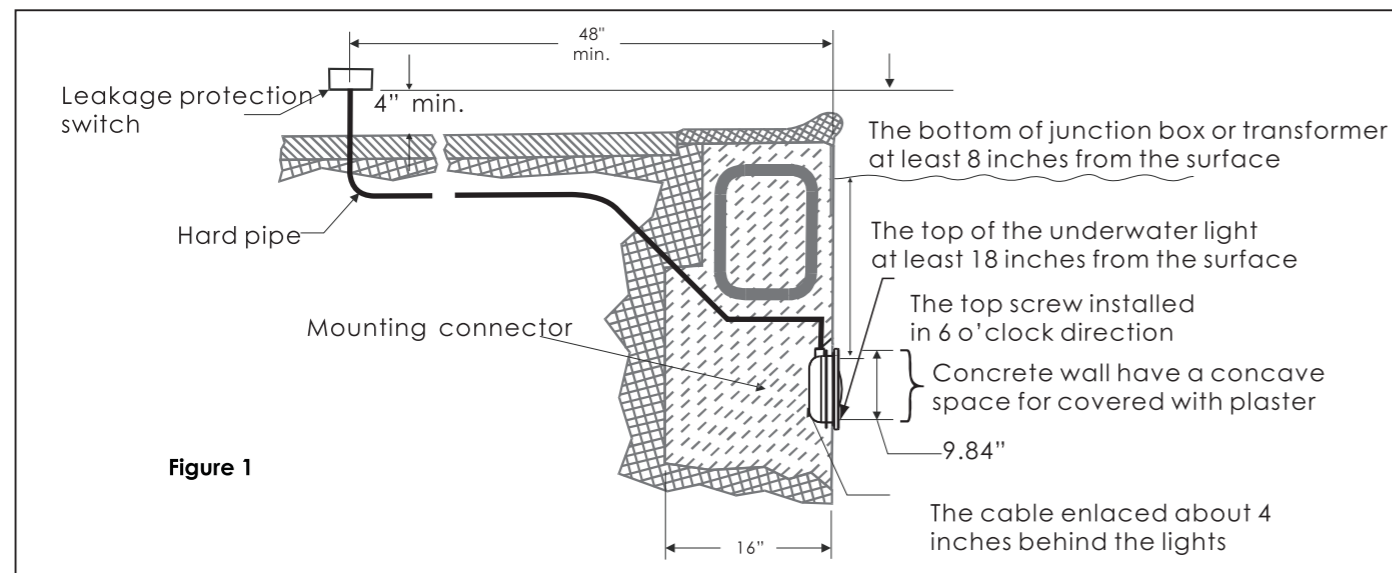

Figure 1
### A) The electrician must complete preparatory steps before light fixture is installed; see Figure 1.
- The Junction Box (or, for 12 volt models, the low voltage transformer) must be located at least 20CM above water level, at least 10CM above ground level, and at least 120CM from the edge of the pool; see Figure 1.
- The wet niche must be properly installed so that the top edge of the underwater light's lens is at least 45.5 below the surface of the water in the pool; see Figure 1.
- The wet niche must be properly electrically bonded and grounded via the No.8 AWG ground connector located at the rear of the niche; see Figure 1.
around the light; see Figure 1. This 120CM of cord around the light allows the light to be serviced after the pool is filled with water.